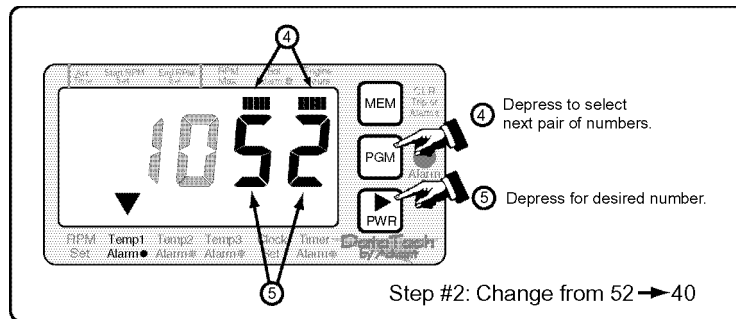

Figure 5b
- (Fig 5b) ④
- (Fig 5b) ⑤
- (Fig 5b) ④ Depress  to accept the value and select the '100s' digit
- (Fig 5b) ⑤ Depress  until the correct value (0 - 5) is displayed
- (Fig 5b) ④ Depress  to accept the value and select the '10s' digit.
- (Fig 5b) ⑤ Depress  until the correct value (0 - 9) is displayed
- (Fig 5b) ④ Depress  to accept the value and select the '1s' digit
- (Fig 5b) ④ Depress  to accept the value and select next digit
- (Fig 5b) ⑤ Depress  until the desired value is displayed